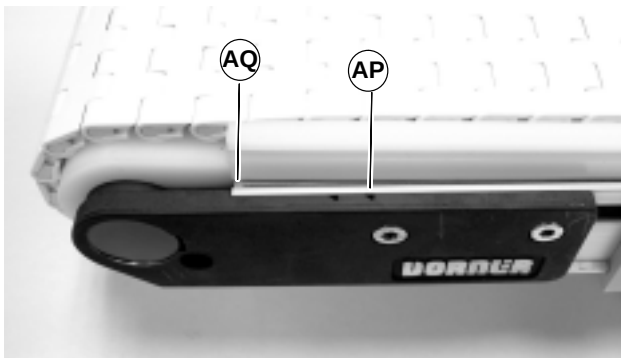

Figure 24
2. Extend head plate assembly so belt sag is between minimum shown in figure 21 and maximum shown in figure 22. If proper tensioning cannot be obtained before (AP of Figure 24) is even with the end of the conveyor frame (AQ), belt links must then be removed. See section “B Removal of Belt Links”.